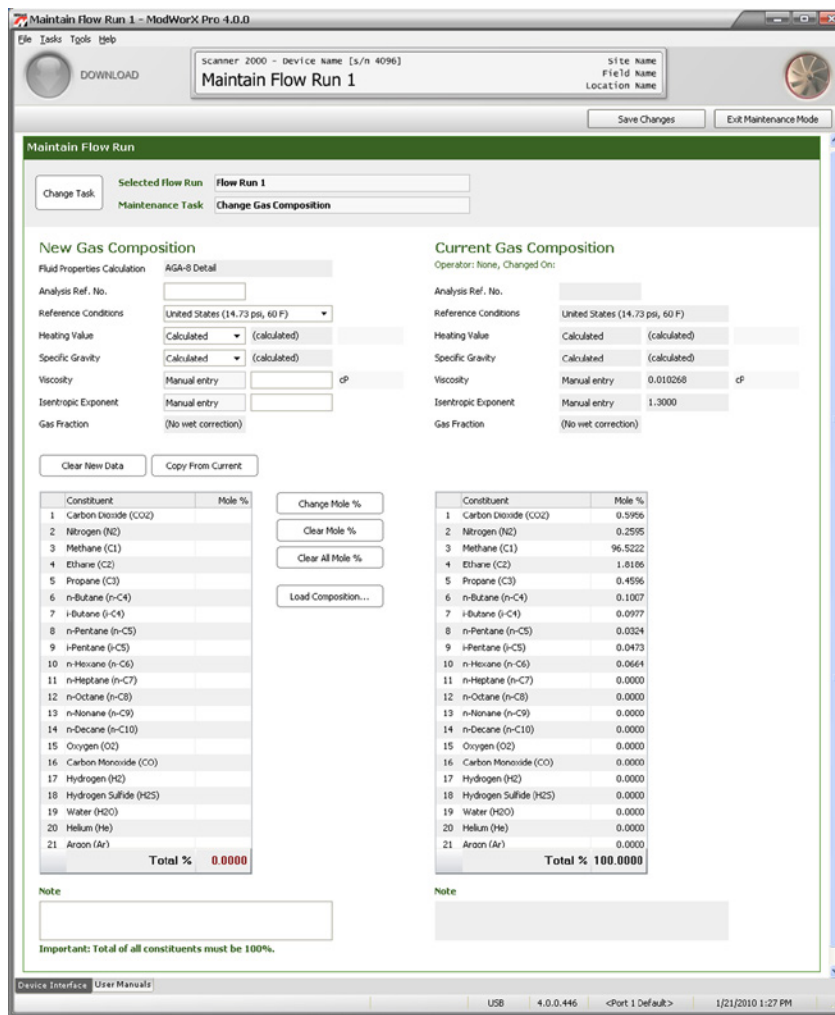

Figure 12.3
3. Click **OK** to proceed. The Maintain Flow Run screen will appear (Figure 12.3).
- b. Click **OK** to save your selections and return to the Maintain Flow Run screen (Figure 12.3, page 176).